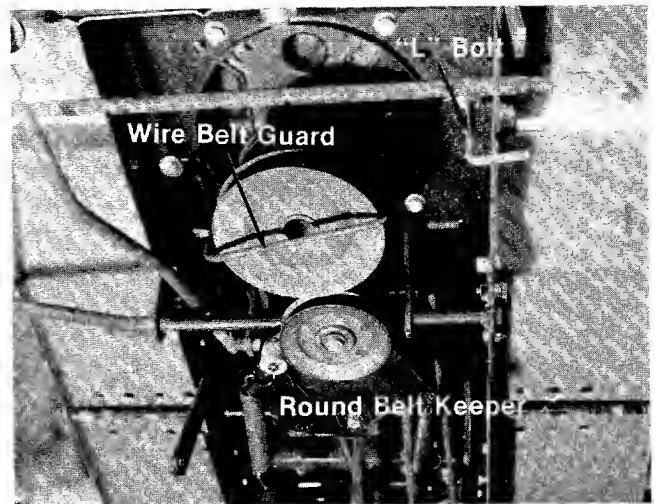

FIGURE 6.
2. Remove the round belt keeper from the idler by removing the cotter hairpin. (See figure 6.)